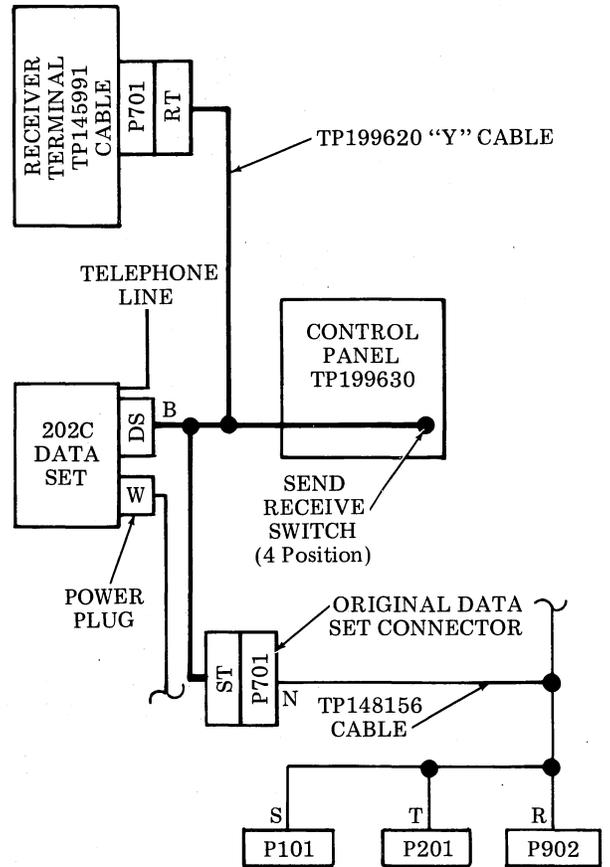

Figure 3 - Installation Without Options
B. Installation at Sender Terminal Without Options (Figure 3)